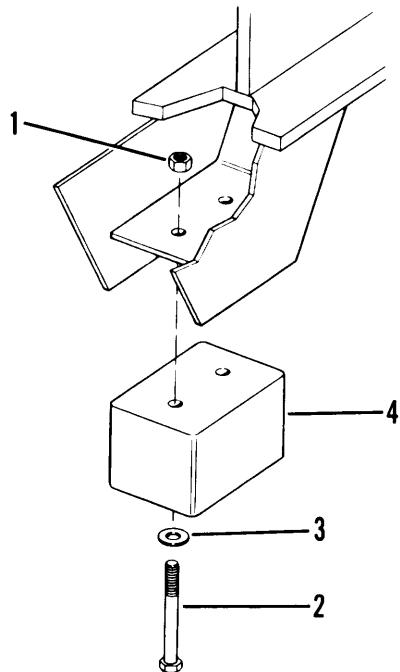

Figure 4-58. Suspension Bumper
- (1) Remove two nuts (1, fig. 4-58), bolts (2) and washers (3).
- (2) Remove suspension bumper (4) 1
- (3) Repeat steps 1 and 2 for other suspension bumpers as needed.
- (1) Place suspension bumper (4, fig. 4-58) into position.
- (2) Install two washers (3), bolts (2) and nuts (1).